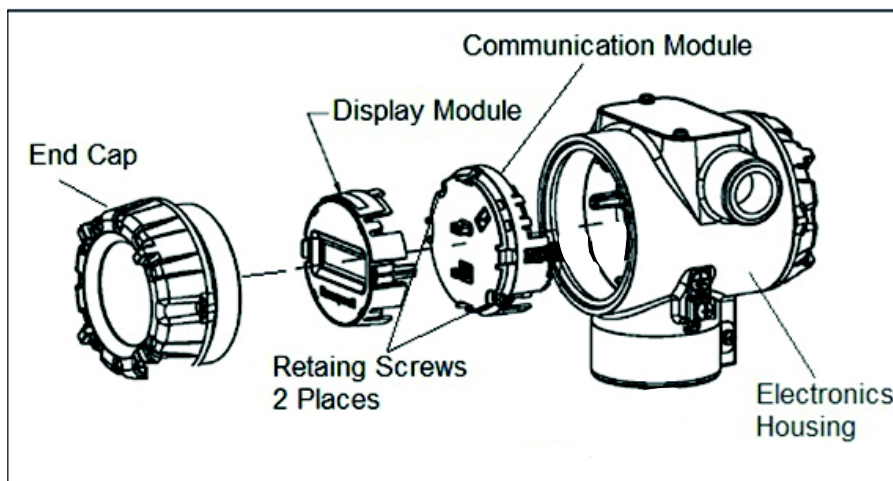

Figure 15 – PWA Replacement
Refer to Figure 15 for parts locations.
15. Install external upgrade label (i.e. DEVICE MODIFIED.....) provided on outside of housing as shown in Figure 15.